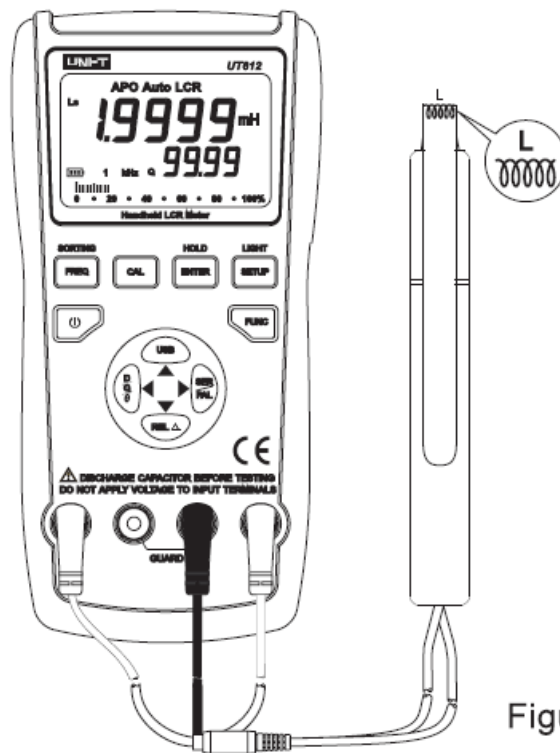

Figure 10
3. Insert the inductor into input terminals or connect the inductor to the meter using the test clamp(See Figure 10).